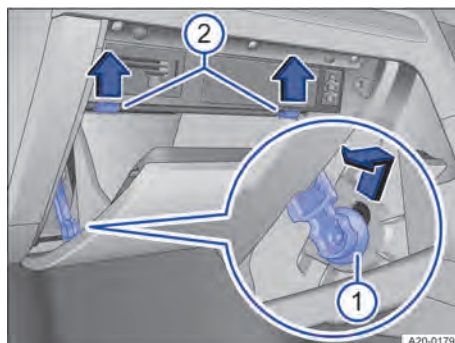

Fig. 181 Fuse box cover in the dash panel: right-hand drive vehicle, on the front passenger side (illustration).
1. Open the glove box and empty if necessary → Fig. 181.
2. Push the restrictor upwards into the opening of the holder and pull out to the side → Fig. 181 ①.
3. Push catches upwards in the direction of the arrow and at the same time open the stowage compartment further → Fig. 181 ②.
3. Carefully push the glove box forwards past the resistance of the stop pins → Fig. 181 ②.